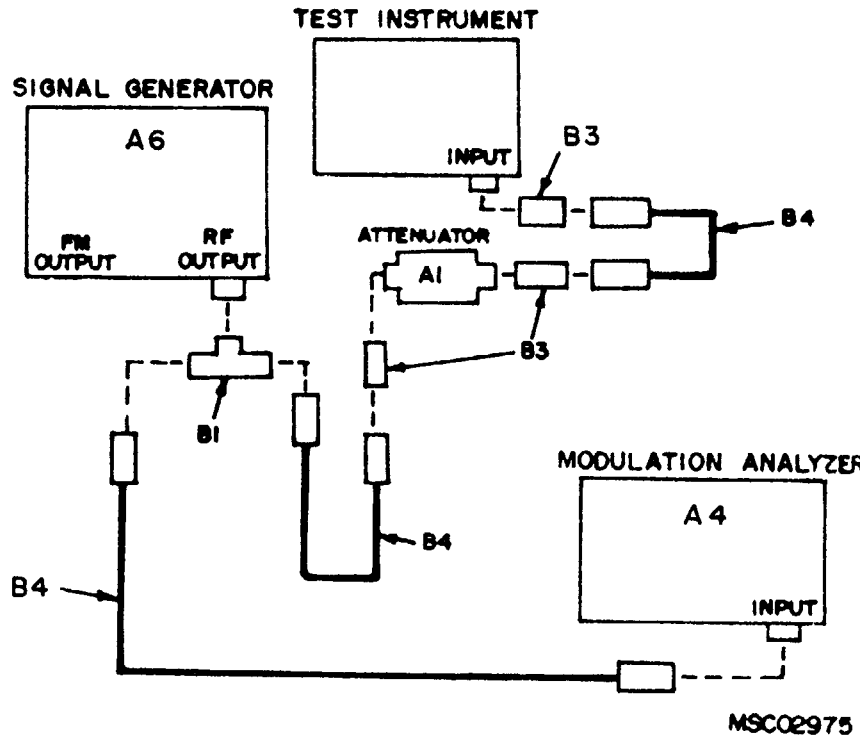

Figure 2. Frequency deviation - equipment setup.
(1) Connect equipment as shown in figure 2.
(2) Set DEVIATION RANGE-KC switch to 20 and FREQUENCY RANGE-MC switch to 20-55.
(3) Set modulation analyzer (A4) for automatic operation to measure RF frequency.
(4) Adjust signal generator (A6) for a 50-MHz CW output and adjust attenuator (A1) as necessary to limit signal to black section of TI limiting meter.
(5) Adjust TI FREQUENCY-MC dial for a 0 indication on CARRIER SHIFT meter.
(6) Set signal generator FM switch to INT and MODULATION FREQUENCY control for 1 kHz.
(7) Set modulation analyzer to FM modulation.
(8) Adjust signal generator FM modulation controls for a 20-kHz full scale indication on TI DEVIATION meter. If modulation analyzer does not indicate between 19.25 and 20.75 kHz deviation, perform **b** below.